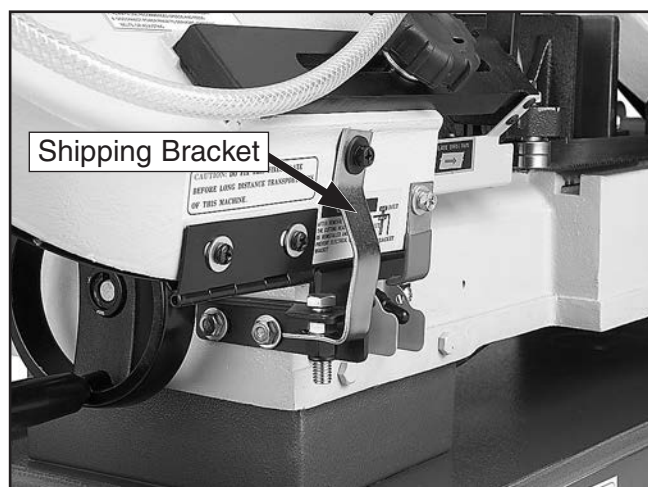

Figure 9. Location of shipping bracket.
2. Use a 14mm wrench to loosen bottom hex nut and remove shipping bracket shown in **Figure 9**.